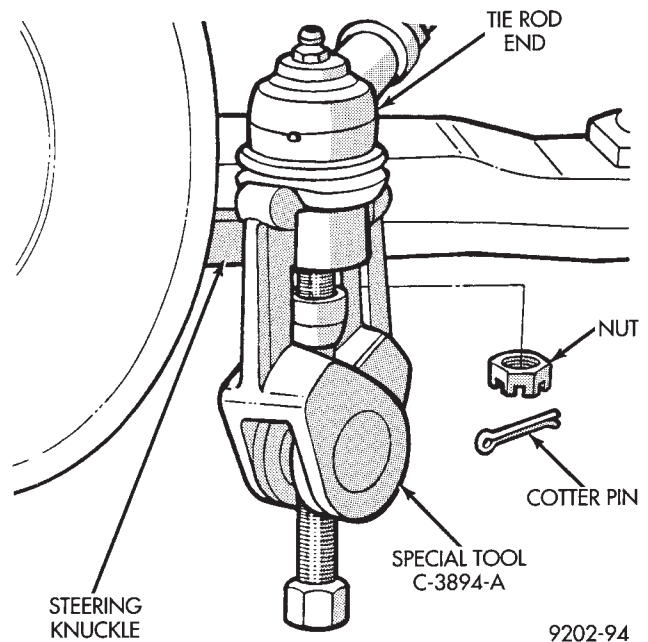
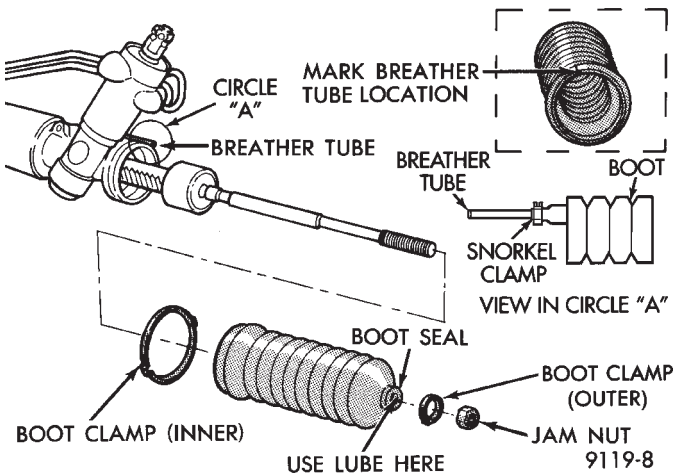

Fig. 2 Tie Rod End Removal
Fig. 3 Boot Seal Remove Install
(4) Remove the tie rod end from steering knuckles, using Puller Special Tool C-3894-A (Fig. 2).
(2) Loosen the inner to outer tie rod jam nut (Fig. 2). Remove the outer tie rod from the inner tie rod.
(3) Remove jam nut.
(4) Using pliers expand outer boot, to tie rod clamp (Fig. 3) and remove from steering gear boot.
(5) Use pliers to expand boot snorkel clamp (Fig. 3) and slide clamp off boot and leave on breather tube.
(6) Remove inner, boot to steering gear clamp (Fig. 3).
(1) Install boot seal on inner tie rod.
(2) Align vent hole in boot seal (Fig. 3) with steering gear breather tube.
(3) Install boot seal over steering gear housing lip and onto the end of the breather tube (Fig. 3).
(4) Install boot seal to breather tube snorkel clamp (Fig. 3)
(5) Install new inner boot seal to steering gear clamp (Fig. 3)
(6) Lubricate inner tie rod boot groove with silicone type lubricant, then install outer boot seal to inner tie rod clamp (Fig. 3).